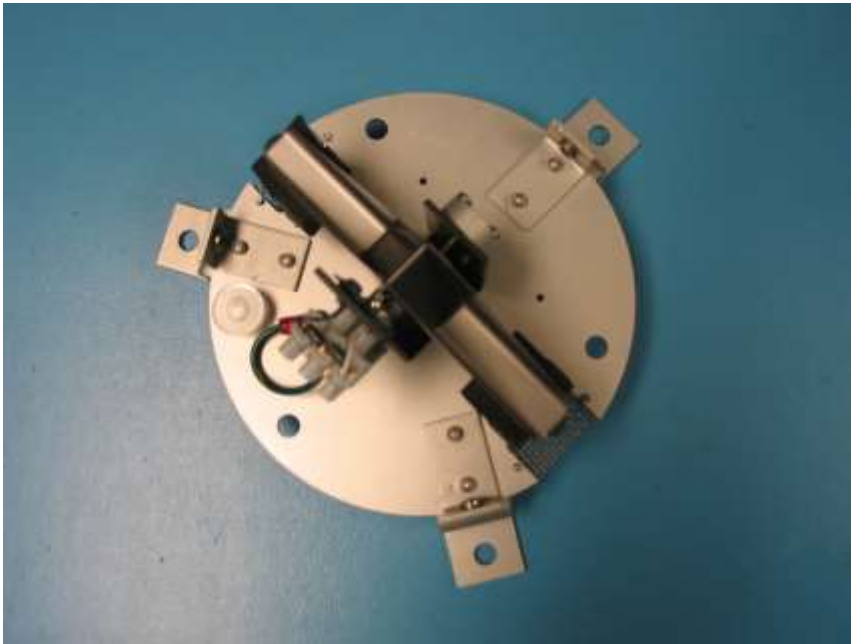

FIGURE 2.5: BUBBLE LEVEL & MOUNTING ADJUSTMENT
8. Level the rain gauge by observing the location of the bubble in the bubble level (adjust as required). Note: This rain gauge has been calibrated at the factory with the bubble centered; any deviation from this could affect accuracy. (Refer to Figure 2.5).